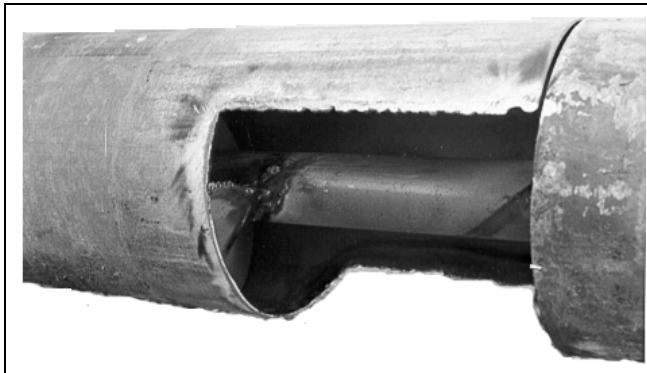

Figure 3B
2. Position the optional sensor connecting band (available in 6" and 8" diameters) so that the rectangular hole is toward the discharge end. Mark the outline of the rectangular hole and the edges of the band on the auger tube. Cut a hole in the tube 8" long and up about 1/3" of the way around the tube to remove the rectangular hole outline (stay inside the end marks of the connecting band). This large hole is to make it easier to remove the flighting. *(See Figure 3B on Page 13.)*